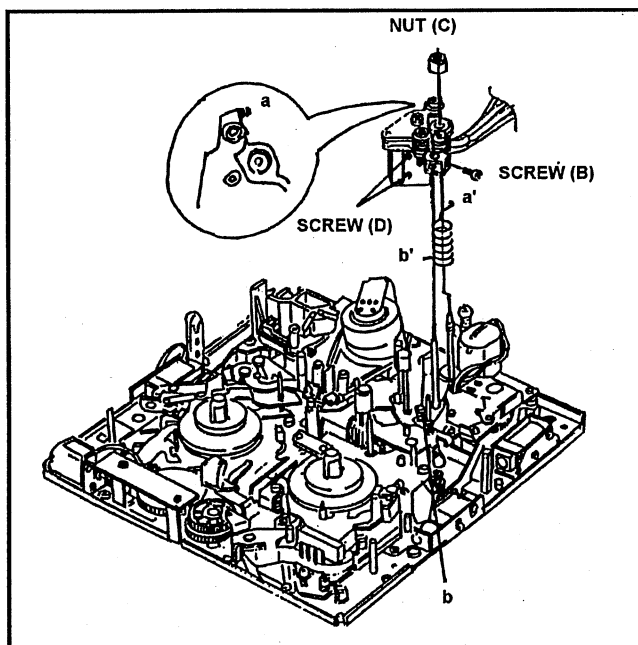

Fig. 6-2-1 Removal of A/C Head Unit
5. Loosen the hex screw (B) and remove the Nut (C). Hang off the Head Height Adjustment Spring and then remove the A/C Head Unit as shown in Fig. 6-2-1.
7. Remove the Shield Cover by removing 2 screws (D) as shown in Fig. 6-2-1.